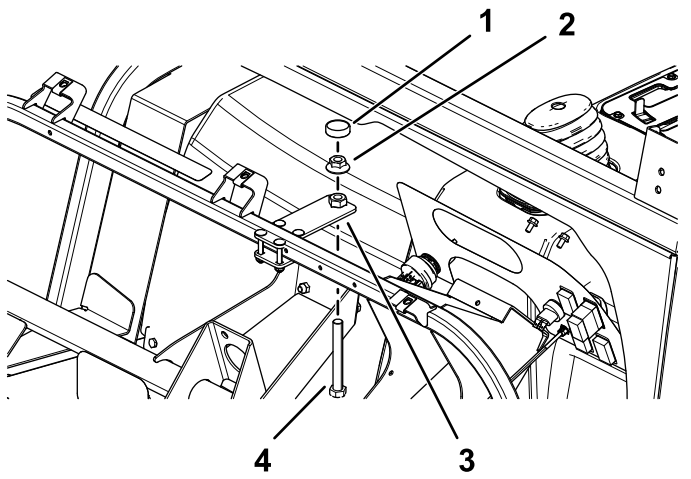

Figure 37
3. Install the tap bolt (1/2 x 4 inches), flange nut (1/2 inch), and stop plate to the adjuster plate (Figure 37).